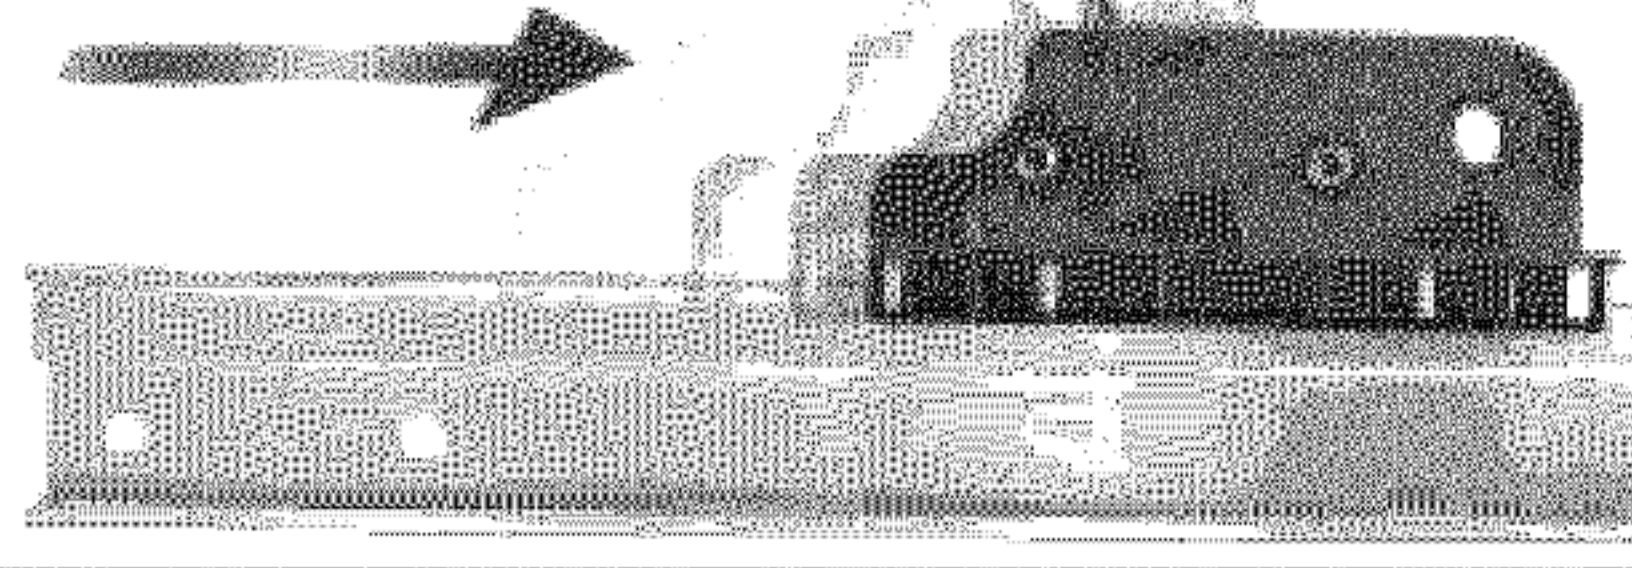

FIG. 1-5 Align arrow.
- Slide carriage into rail at **power head end** (Fig. 1-5).